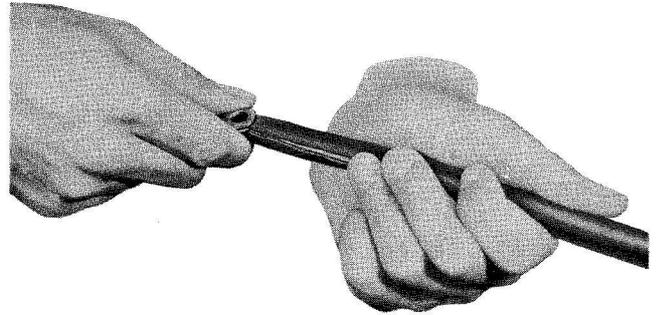

**Fig. 7 — Stripping IW Cable (with Jacket-Splitting Cord)**
- (1) Slit end of cable sheath with diagonal pliers for approximately 1 inch.
- (2) Locate jacket-splitting nylon cord under jacket.
- (3) Grasp cable firmly in one hand and, using long-nose pliers, pull nylon cord through cable jacket to the desired stripped length (Fig. 7).